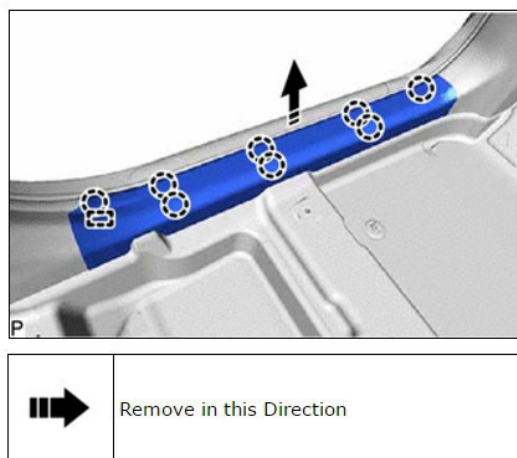

Figure 3
- (b) Disengage the 8 claws and guide to remove the front door scuff plate LH as shown in Figure 3.